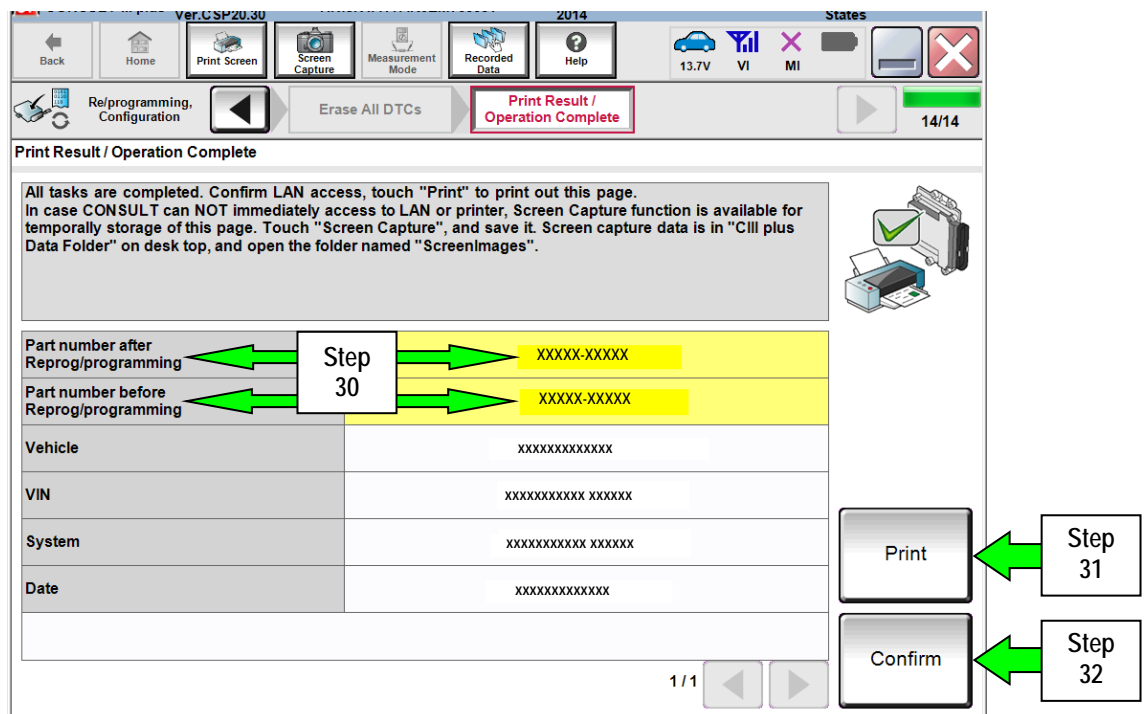

Figure 16
29. When the entire reprogramming process is complete, the screen in Figure 16 will display.
31. Print a copy of this screen (Figure 16) and attach it to the repair order for warranty documentation.